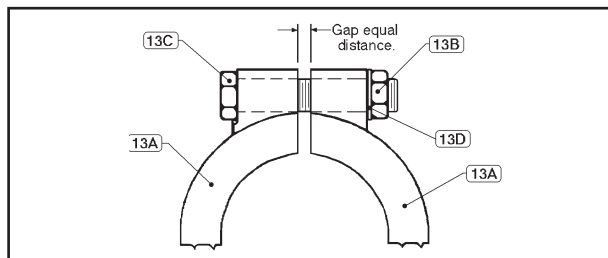

Figure 1: Clamp Arrangement.
5. Loosen thumbclamp screw (13) and remove.
- a. **For Opt-80:** 2 piece clamp (13A): Loosen and remove clamp nuts (13B), washers (13D), bolts (13C) and clamps (13A). See Figure 1.
6. Place matchmarks between body (1) and spring chamber(2) to assist in final orientation when reassembled.
7. Lift spring chamber (2) vertically up and off guide post (18) and body (1) and set aside. **NOTE alignment of spring button (4) tab (ears) with slot guides inside spring chamber (2).**
8. Remove bearing seal (22). Lift up to remove adjusting screw assembly (5), spring button (4) and spring (7) off guide post (18).
11. Slide adjusting screw cap (5.1) with new u-cup seals (5.4) and adjusting screw (5.3) together, use the dowel pin (5.2) for alignment. **NOTE; Top end of pin (5.2) should be flush with top surface of adjusting screw cap (5.1).** Place new seal (22) on adjusting screw cap (5.1). Set parts aside for final assembly later.
12. Remove set screw (19) rotate CCW. Rotate guidepost (18) CCW and remove.
NOTE: Gap between clamp (13A) halves should be equal in size. See Figure 1.